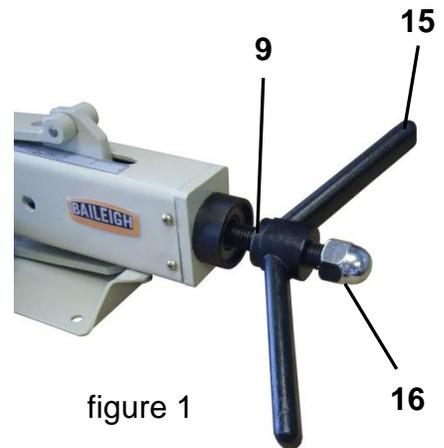

figure 1
2. Screw on the handle (#15) as shown in (fig. 1) and re-attach the capping nut.